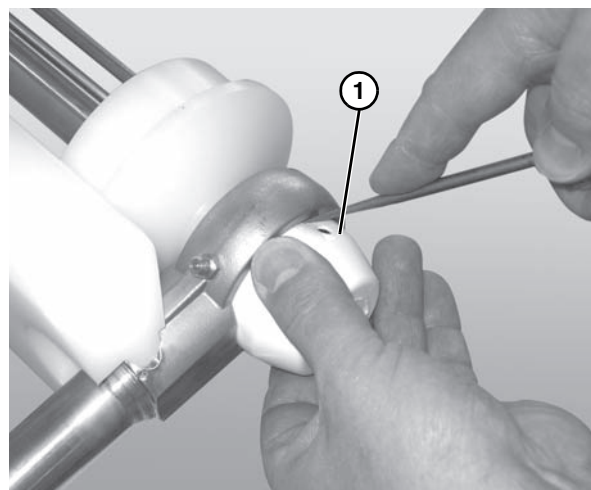

Figure 74
3. Remove the bearing cover (**Figure 74, item 1**).